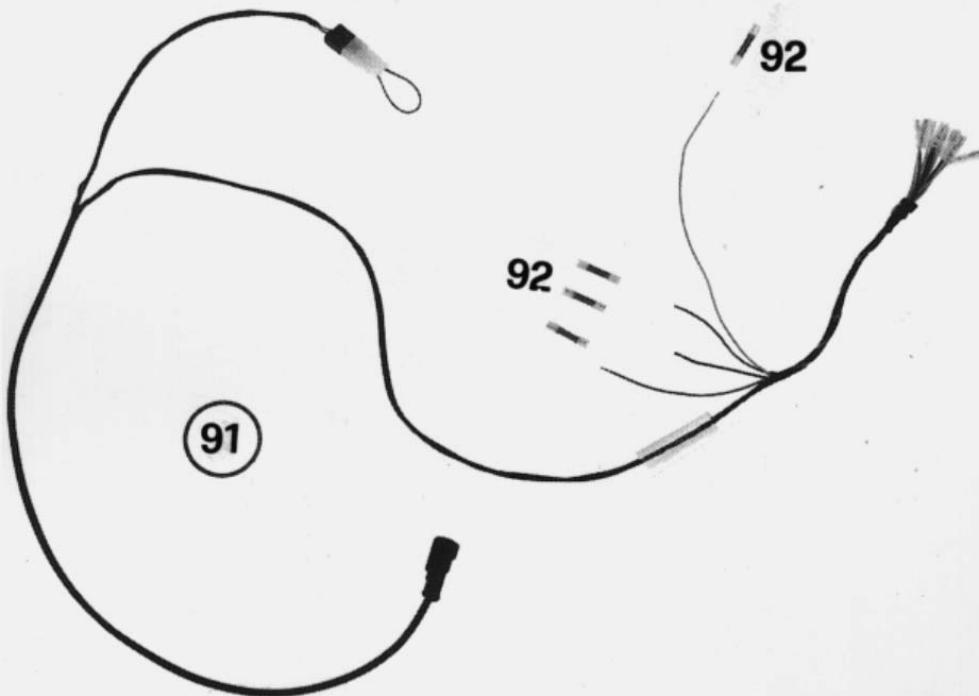

FIG. 3.1
ELENCO MATERIALE FORNITO (FIG. 3.1)
**LISTE DU MATERIEL FOURNI (FIG. 3.1) / LIST OF SUPPLIED MATERIALS (FIG. 3.1)
VERZEICHNIS DES GELIEFERTEN MATERIALS (ABB. 3.1) / LISTA MATERIAL ABASTECIDO (FIG. 3.1)**